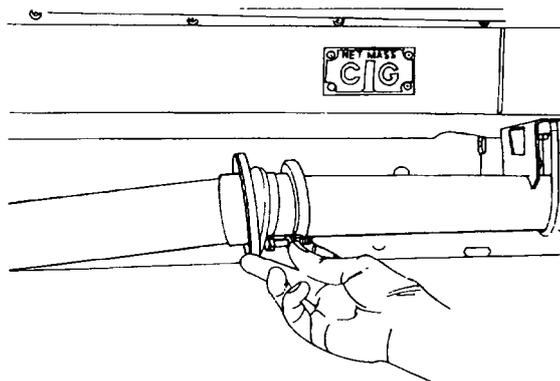

Figure 5 Front Exhaust Pipe
- q. Remove the nuts, washers and bolts securing the front exhaust pipe to the muffler pipe (Figure 5). Remove the front exhaust pipe.